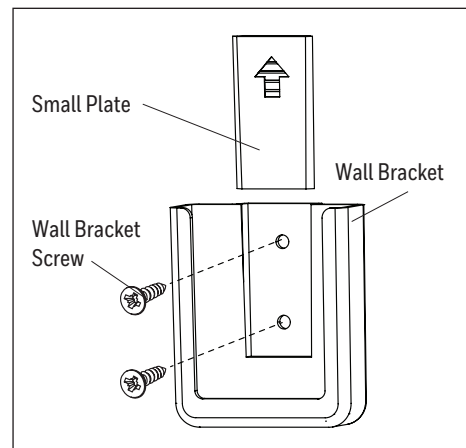

Figure 5.11
11. Remote control comes equipped with a wall bracket. If you wish to install the wall bracket, remove the small plate to expose the screw holes. Insert wall brackets screws through holes and into wall, then cover with the previously removed small plate. The remote can be stored in the wall bracket for easy access (Figure 5.11).